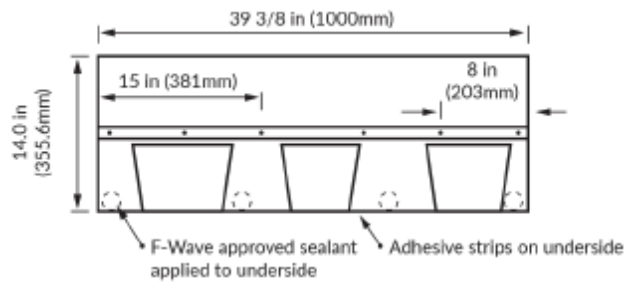

FIGURE 2 - REVIA ROOFING SHINGLE STARTER PIECE
**5.4** The shingles must be installed starting with a row of *REVIA Starter Shingles* (see Figure 2). The starter shingles